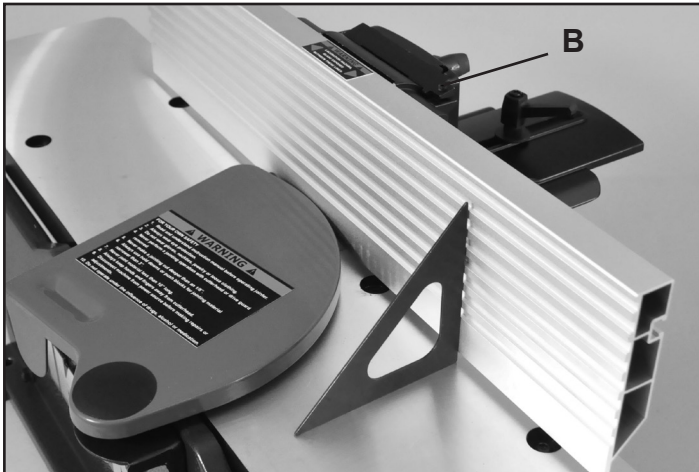

FIG. 6
6. Use an Angle Gauge to measure the  $90^\circ$  &  $135^\circ$  angles between the Fence and Jointer Table Top. Adjusting can be done by loosening / tightening the Nylock Hex Socket Head Screws (B). FIG. 6 & 7.